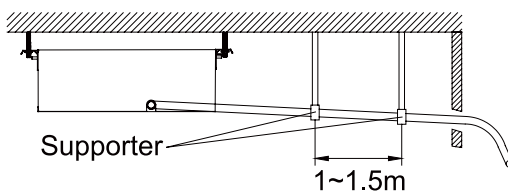

Fig.13
3. When the hose is long, install supporters.(Fig.13)